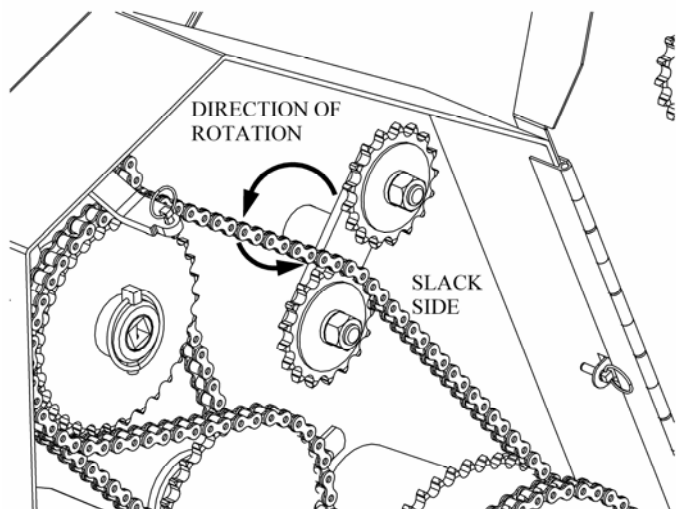

Figure 7a. Chain Idler
3. After selecting the proper seed rate and calibrating the seeder, run the Aera-vator approximately 50 feet and check the idler for any slack and tighten if necessary, Figure 7a.